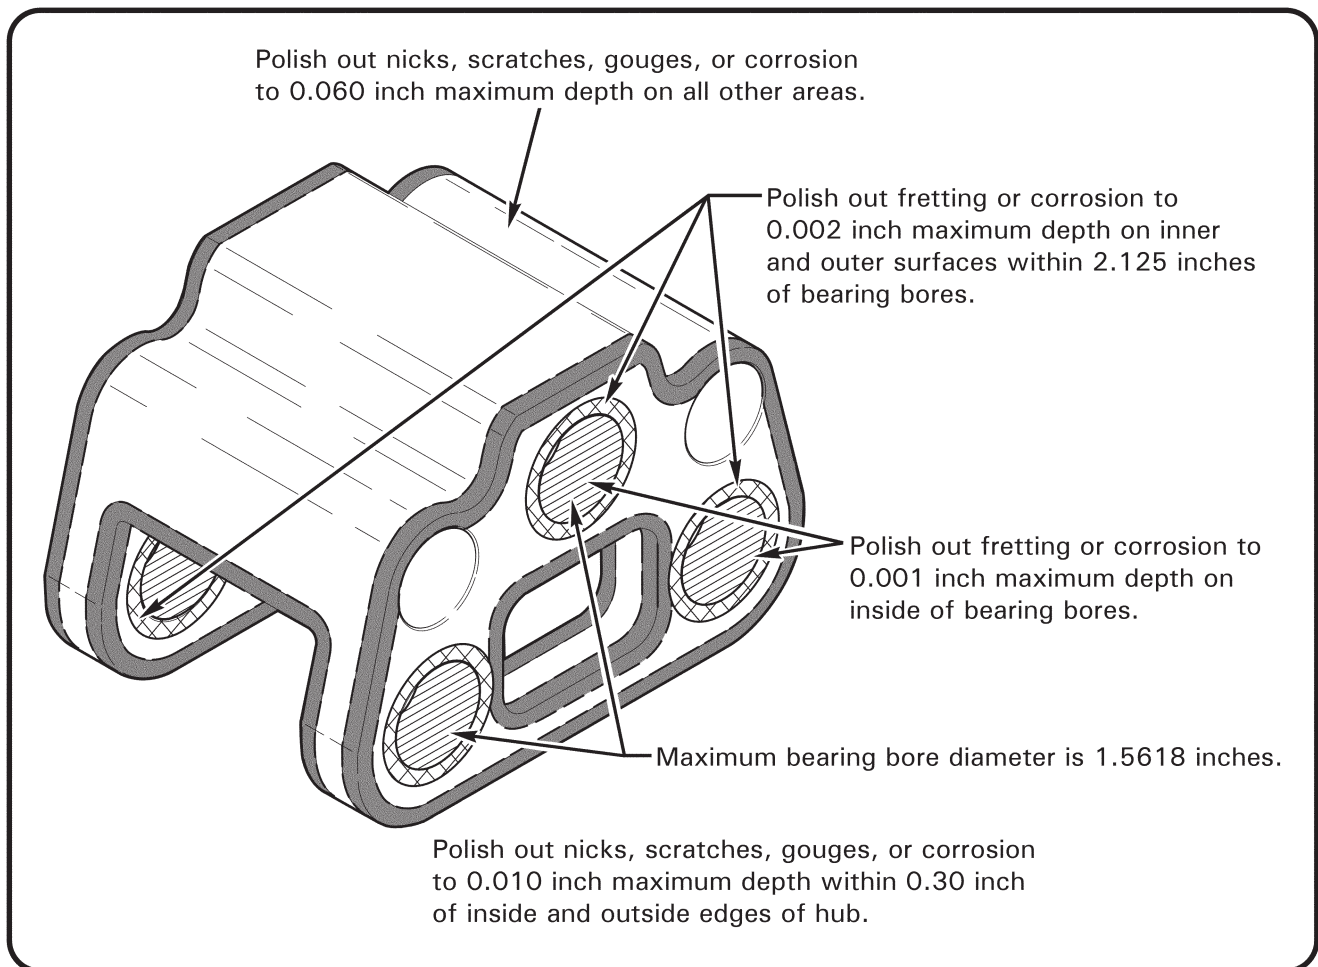

FIGURE 62-5 MAIN ROTOR HUB REPAIR LIMITS
3. Refer to Figure 62-5. If required, polish surfaces using 320-grit or finer wet-or-dry aluminum oxide abrasive paper to 0.25 inch minimum blend radius. |